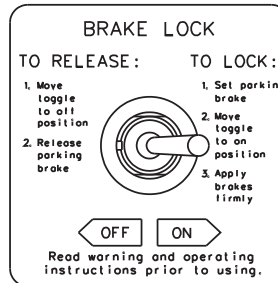

FIGURE 1
4. With no force applied to the brake pedal, move toggle to ON position as indicated on dash plate (Figure 1).